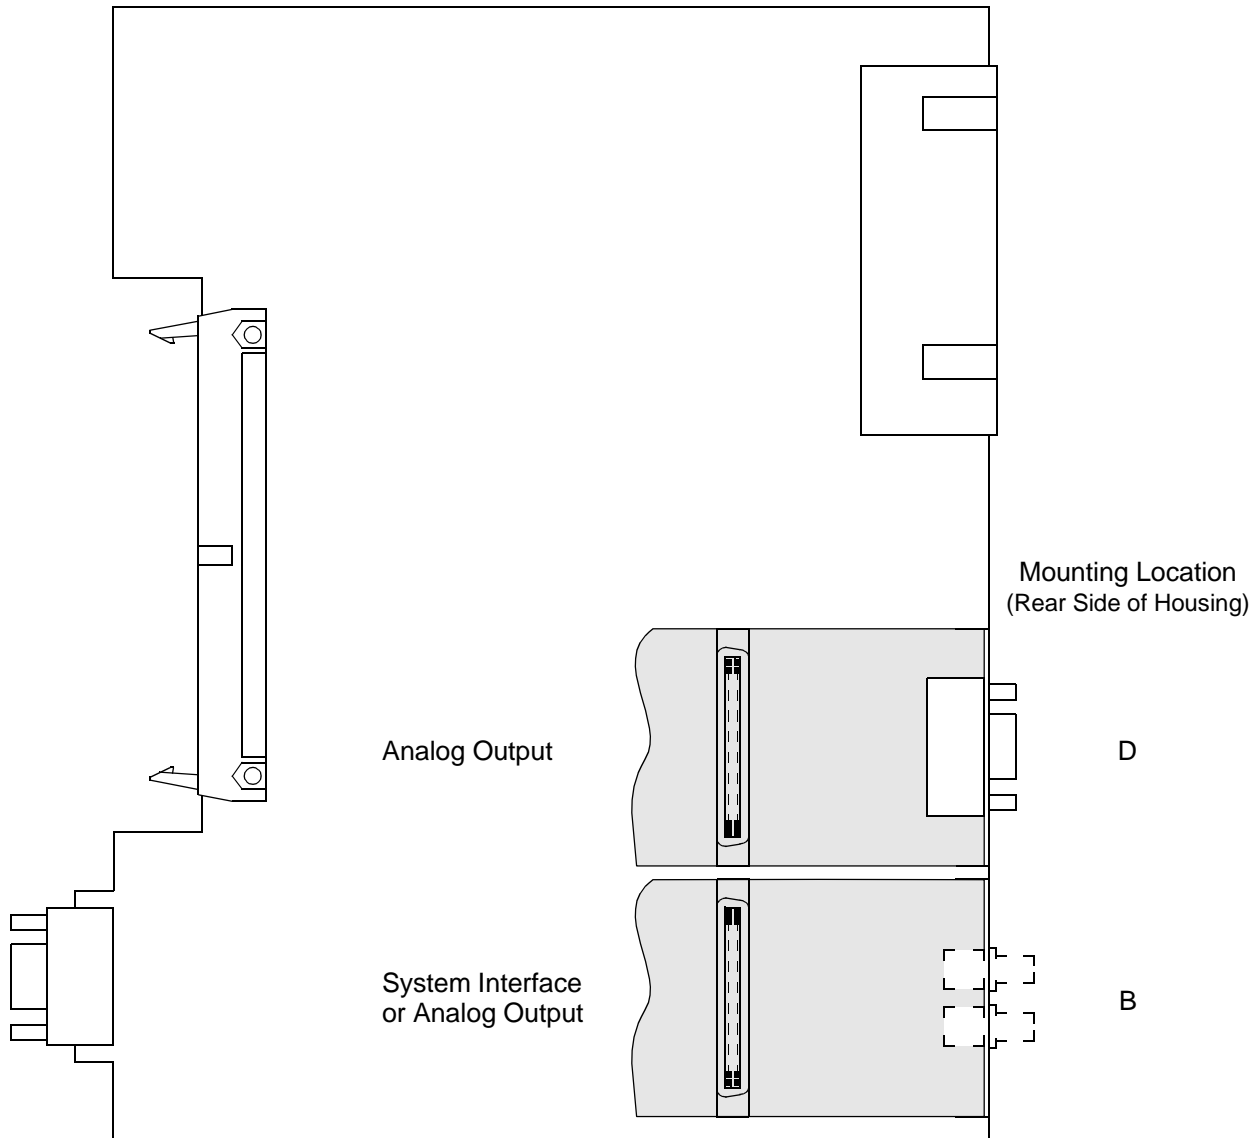
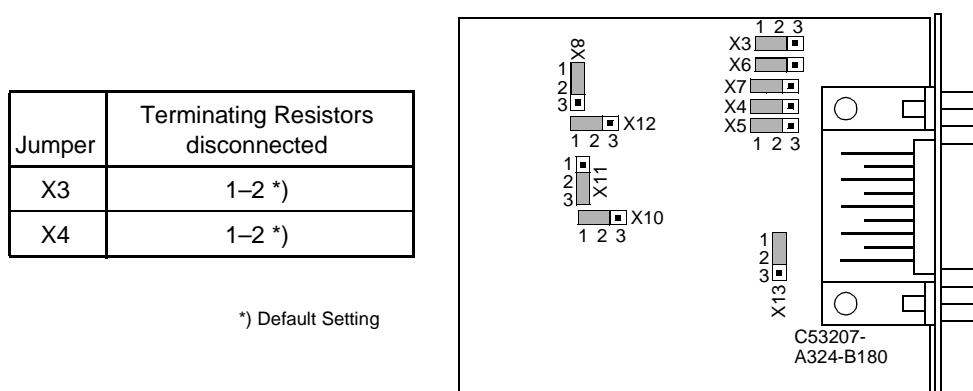

Figure 8-19 Processor printed circuit board C-CPU-2 with interface modules
Figure 8-20 Location of the jumpers for configuration of RS232
The interface modules are located on the processor printed circuit board C-CPU-2 (❶ in Figure 8-9 to 8-11). Figure 8-19 shows the printed circuit board and the modules.
Figure 8-19 shows the printed circuit board C-CPU-2 and the interface modules. Figure 8-20 shows the location of the jumpers of interface RS232 on the interface module.
Interface RS485 can be modified to interface RS232 according to Figure 8-20.
The terminating resistors are located on the corresponding interface module that is mounted to the processor input/output board C-CPU-2. Figure 8-19 shows the printed circuit board of the C-CPU-2 and the order the modules are mounted.
The mounting location on the processor circuit board C–CPU–2 is “B” and/or “D”, dependent on the version (see Figure 8-19).